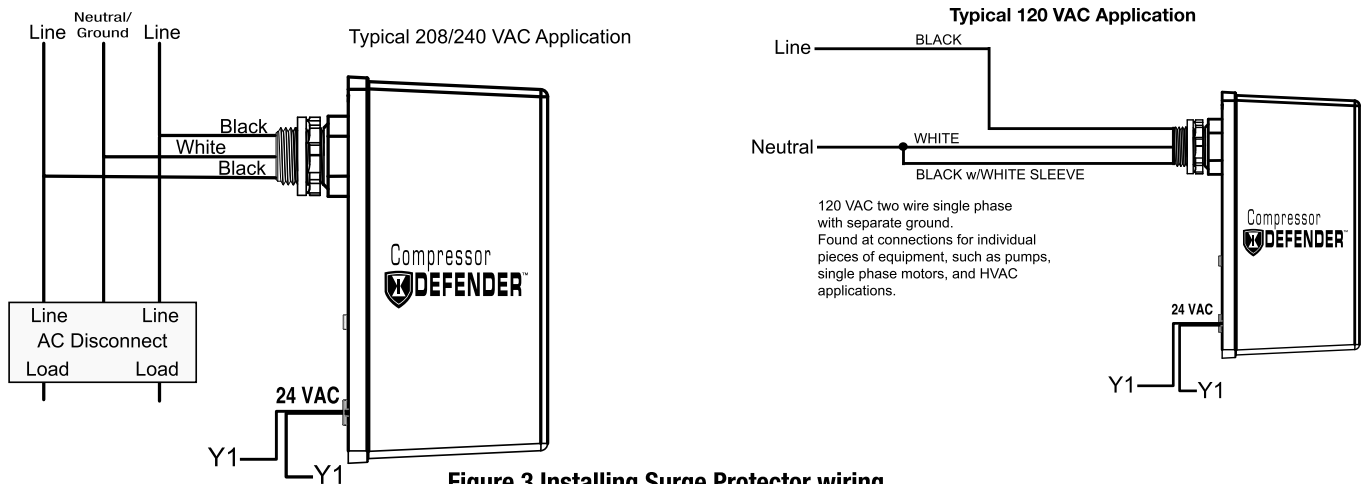

Figure 3 Installing Surge Protector wiring.
3. Connect the white wire from the *Compressor Defender™* to the neutral connection in the panel as shown in Figure 3.
4. Connect the two black wires to the load side of the circuit breaker that is supplying power to the compressor/pump as shown in Figure 3.